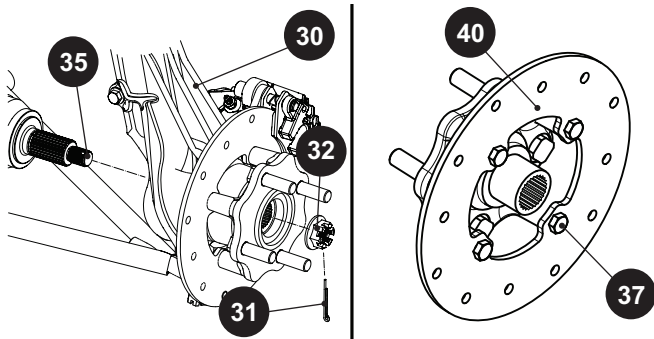

Fig. 4 Rotor
2. Remove the cotter pin (31) and castellated nut (32).
3. Pull the hub assembly (2) away from the axle (35) and strut assembly (30).
4. Remove the four bolts (37) securing the rotor (45) to the hub assembly (2) (Ref. Fig. 4).